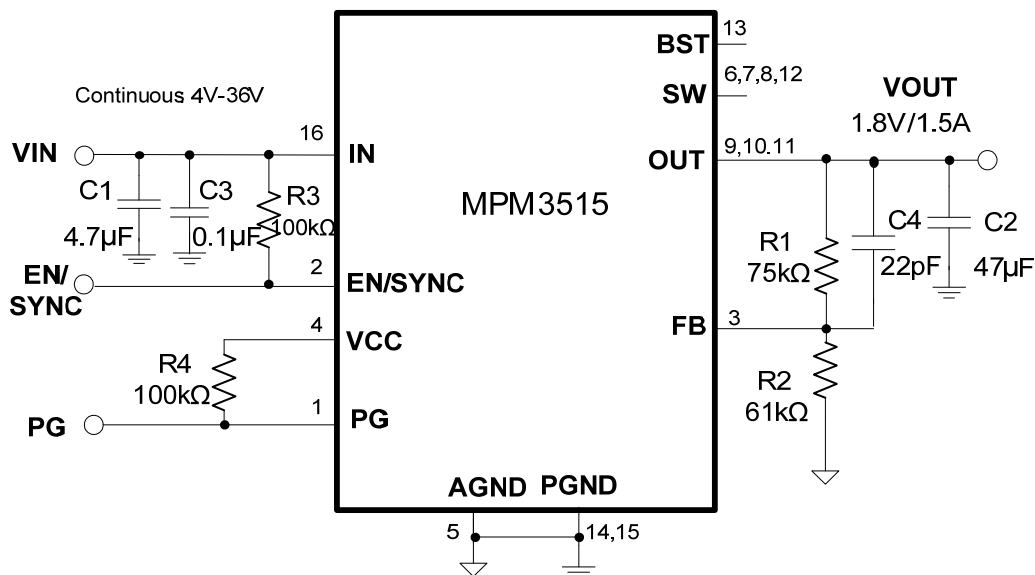

**Figure 8:  $V_{OUT} = 3.3V$ ,  $I_{OUT} = 1.5A$**
7) The recommended layout is based on Figure 8.